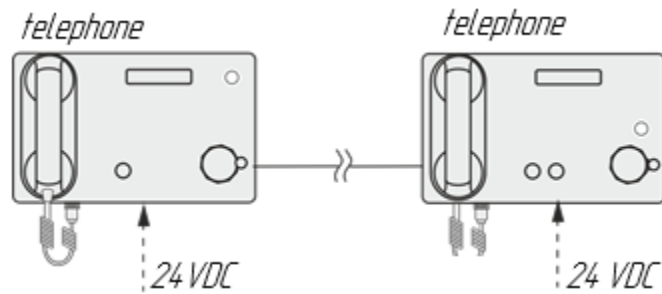

Figure 2 – Pair communication
a) pair communication (one line), see Figure 2;